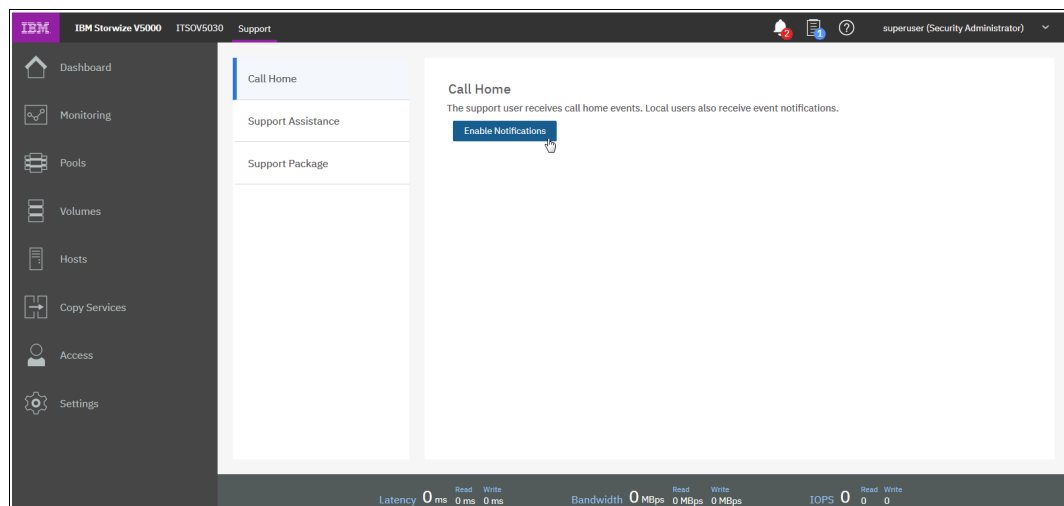

Figure 12-66 Enabling email notifications
1. Browse to **Settings** → **Support** → **Call Home** and select **Enable Notifications**, as shown in Figure 12-66.